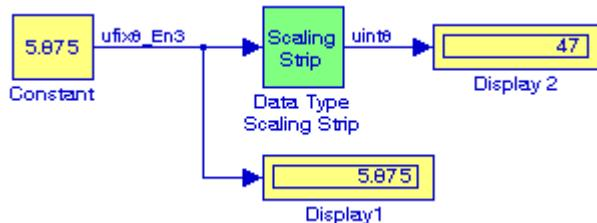

Figure 12.5. Model for Example 12.3
For the model of Figure 12.5, the parameters for the Constant block the Signal data types were specified as Output data type ufix(8) and output scaling value 2^{-3} . Accordingly, the binary presentation of the constant 5.875 is